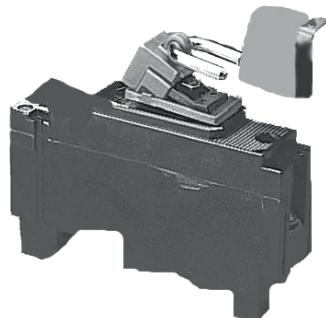

Figure 2
4. Insert a padlock through the lockout device (see **Figure 2**).